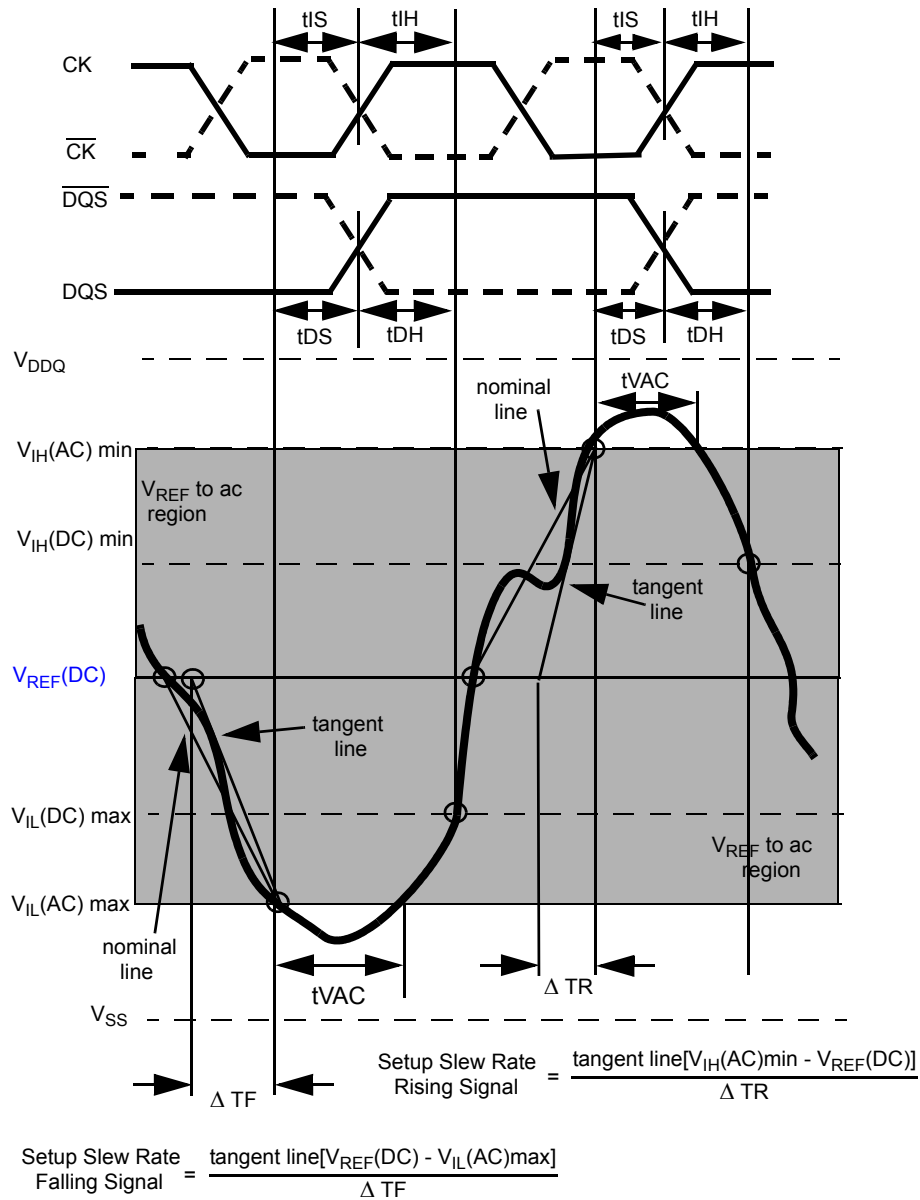

Figure 23. Illustration of tangent line for setup time  $t_{DS}$  (for DQ with respect to strobe) and  $t_{DS}$  (for ADD/CMD with respect to clock)
Example: tIS (total setup time) = tIS(base) + ΔtIS Setup (tIS) nominal slew rate for a rising signal is defined as the slew rate between the last crossing of VREF(DC) and the first crossing of VIH(AC)min. Setup (tIS) nominal slew rate for a falling signal is defined as the slew rate between the last crossing of VREF(DC) and the first crossing of VIL(AC)max. If the actual signal is always earlier than the nominal slew rate line between shaded 'VREF(DC) to ac region', use nominal slew rate for derating value (see Figure 21). If the actual signal is later than the nominal slew rate line anywhere between shaded 'VREF(DC) to ac region', the slew rate of a tangent line to the actual signal from the ac level to dc level is used for derating value (see Figure 23).